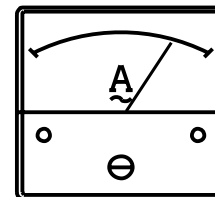

Figure 51. Ammeter (Load)
16. Observe the generator's ammeter (Figure 51) and verify it reads the anticipated amount of current with respect to the load. The ammeter will only display a current reading if a load is in use.